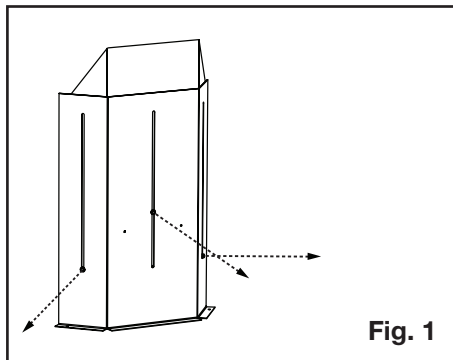

Fig. 1
1. Install standoffs onto the firestop spacer (**Figure 1**).
1. Loosen the fasteners on the vent shield assembly. DO NOT DISCARD FASTENERS (Figure 1).